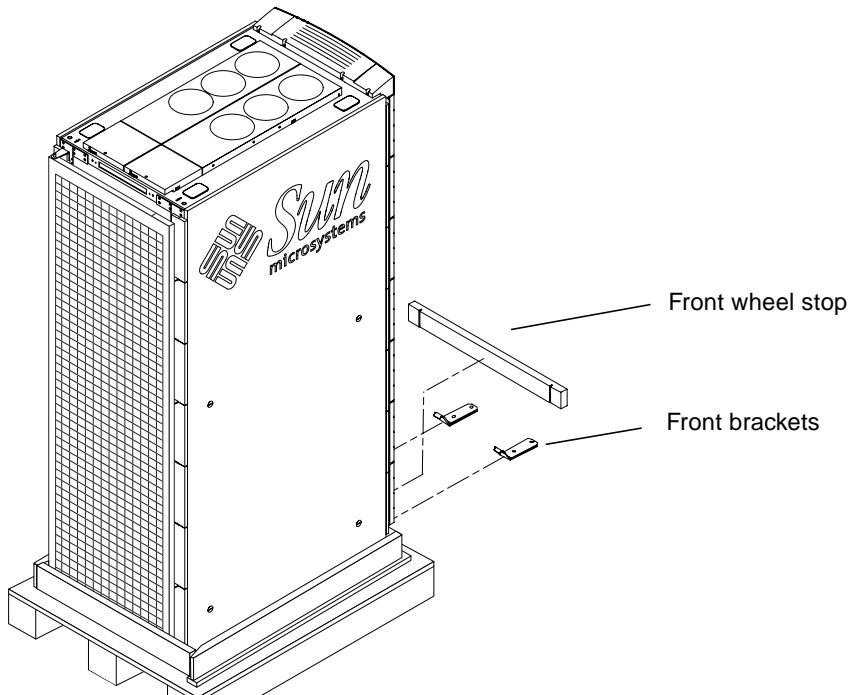

FIGURE 3-3 Front Brackets and Front Wheel Stop
2. Use the leveling wrench to remove the front brackets. Save the brackets for Step 11 (FIGURE 3-3).